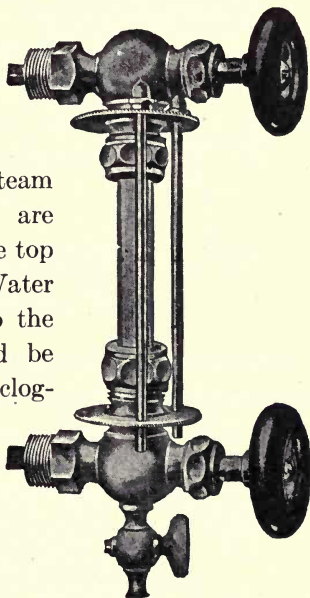

FIG. 166.—Water Gauge.
**354. Water Gauge.**—The function of the water gauge (Fig. 166) is to register the height of the water in the boiler. It consists of a small cast iron drum placed in an upright position in front of the boiler, provided with a glass gauge, cocks, water and steam connections. Pipe connections are arranged so that steam enters the top and water enters the bottom. Water gauge and cocks are essential to the safety of the boiler and should be blown out frequently to prevent clogging. Water should stand half-way in a gauge glass cock while working, and at night should be raised to the top gauge cock. The first duty of a fireman in taking charge of his boiler is to see if the water is at a proper level. To tell if the glass is registering correctly, the gauge cocks must be tried. The water column should be blown